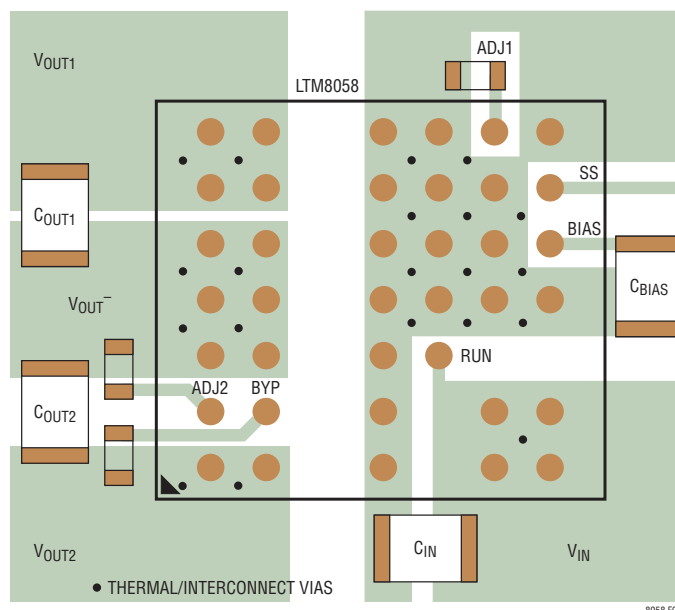

Figure 3. Layout Showing Suggested External Components, Planes and Thermal Vias
Figure 3 for a suggested layout. Ensure that the grounding and heat sinking are acceptable.
6. Use vias to connect the GND copper area to the board's internal ground planes. Liberally distribute these GND vias to provide both a good ground connection and thermal path to the internal planes of the printed circuit board. Pay attention to the location and density of the thermal vias in Figure 3. The LTM8058 can benefit from the heat sinking afforded by vias that connect to internal GND planes at these locations, due to their proximity to internal power handling components. The optimum number of thermal vias depends upon the printed circuit board design. For example, a board might use very small via holes. It should employ more thermal vias than a board that uses larger holes.